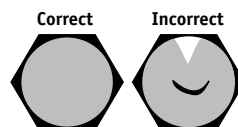

Figure 13
1. Prior to connecting the breathing tube, ensure foam is present/properly inserted into the black threaded connector (Figure 13). Inspect for any gaps between foam and side wall.